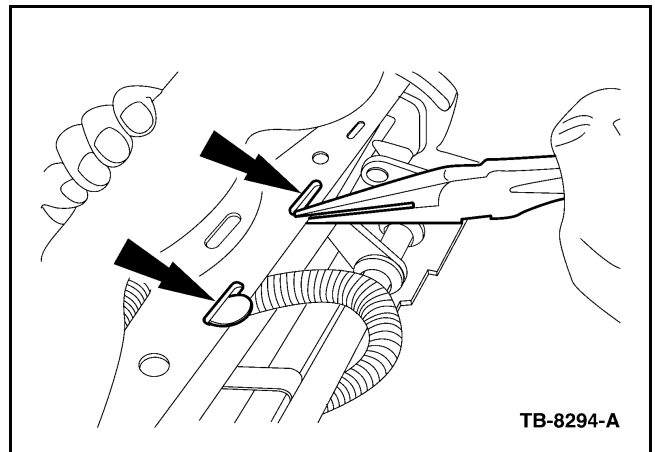

Figure 2 - Article 05-19-10
2. Using a needle nose pliers, bend the inside lip of the four (4) flanges toward the rear of the seat, to open the flange slightly. Use a dime to gauge the new opening (Figure 2). The dime should fit tightly when pushed into the adjusted flange opening.